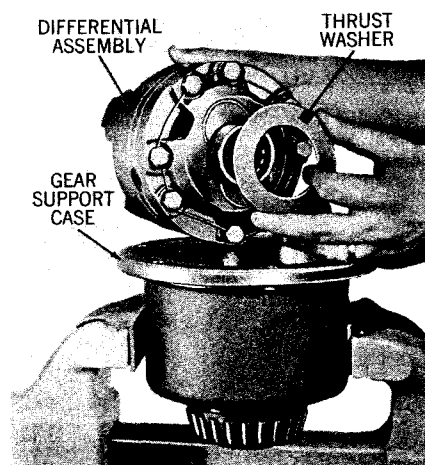

Fig. 38
- 4.** Place right-hand support case thrust washer and differential assembly in right-hand support case (see fig. 38). Install idler pins and pinions. Place high speed clutch